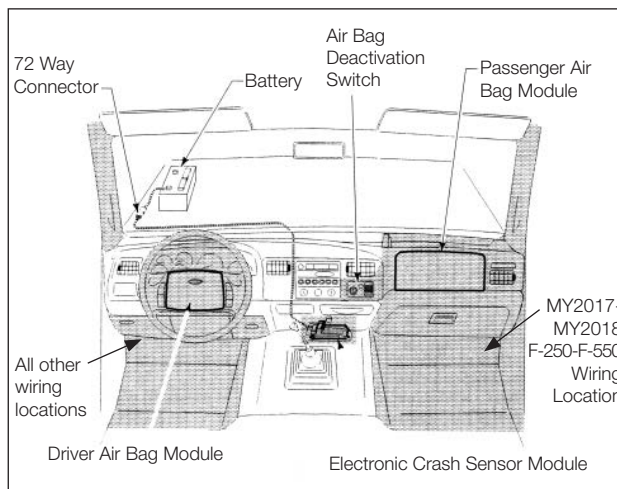

Figure 3
2. Locate a position in the cab for mounting the PTO switch and mounting bracket. The shaded area in (Fig. 3) shows the Occupant Protection Zone of the deployed air bags that are available in these vehicles.